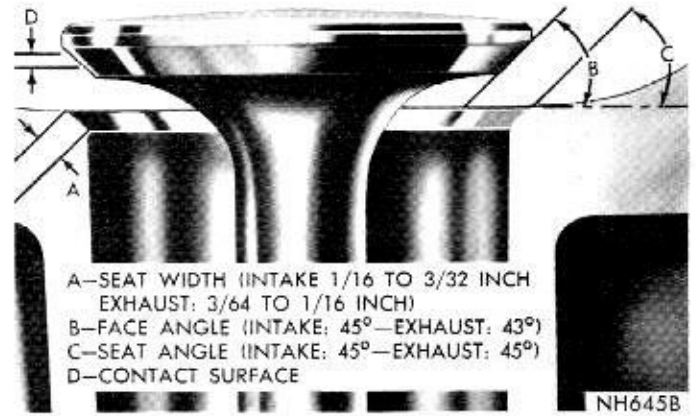

Fig. 10—Valve Face and Seat Angle
(1) The intake and exhaust valve seats and intake valve face have a 45 degree angle. The exhaust valve face has a 43 degree angle. The valve face and valve seat angles are shown in Figure 10.
(2) Inspect the remaining margin after the valves